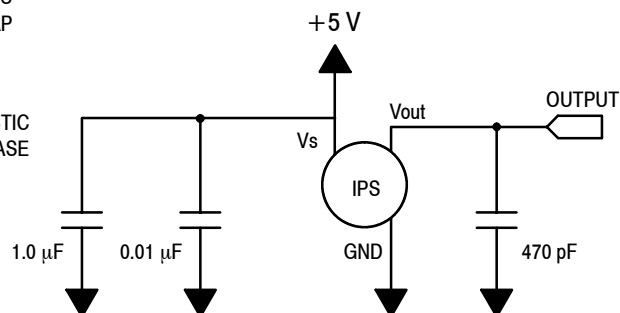
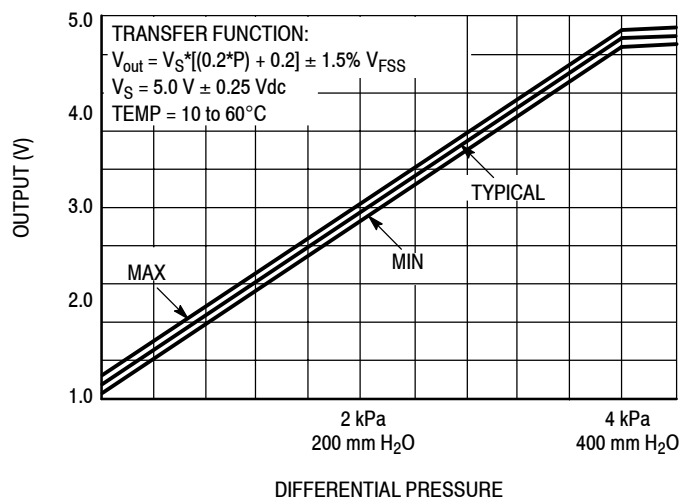

Figure 3. Recommended power supply decoupling and output filtering.
Figure 4. Output versus Pressure Differential
**OPERATING CHARACTERISTICS** (VS = 5.0 Vdc, TA = 25°C unless otherwise noted, P1 > P2. Decoupling circuit shown in Figure 3 required to meet electrical specifications)
Figure 3 shows the recommended decoupling circuit for interfacing the output of the MPXV5004G to the A/D input of the microprocessor or microcontroller. Proper decoupling of the power supply is recommended.
Figure 4 shows the sensor output signal relative to pressure input. Typical, minimum and maximum output curves are shown for operation over a temperature range of 10°C to 60°C using the decoupling circuit shown in Figure 3. The output will saturate outside of the specified pressure range.